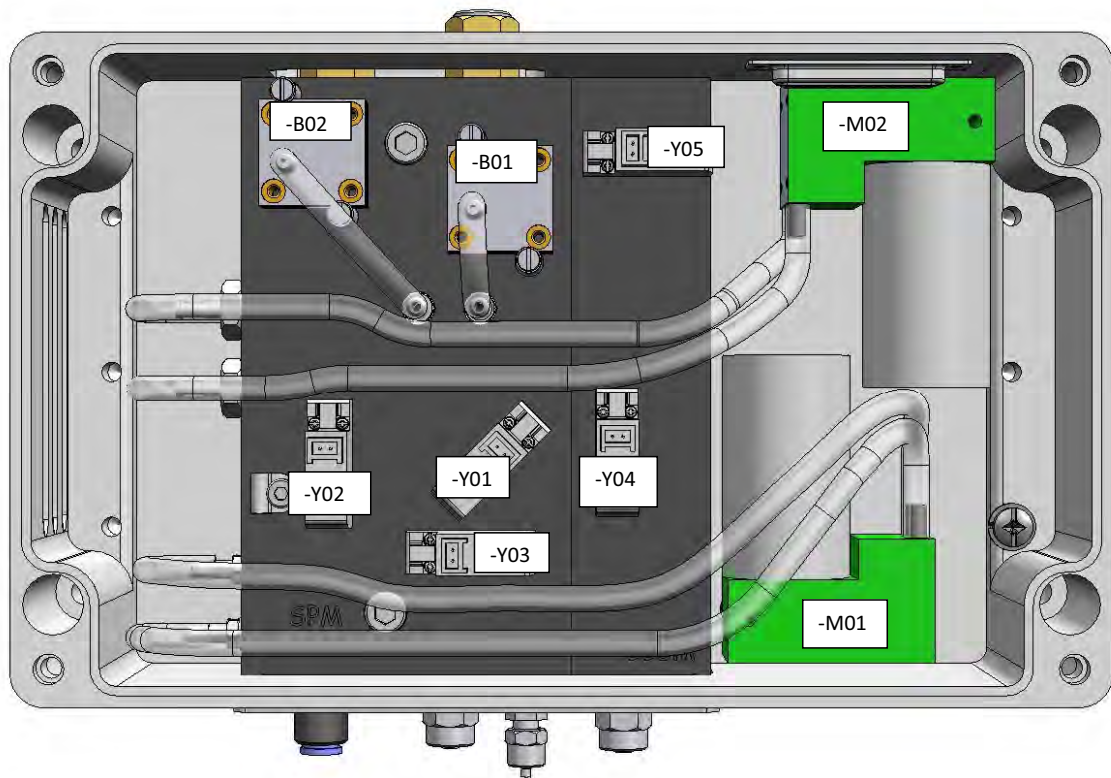

Figure 23 Replacing the Valves
Refer to Figure 23 under “*Replacing the Valves*” and replace the defective flow alarm switch, (-B01) or (-B02), as follows:
4. Locate the switch you want to replace. Refer to Figure 23.
10. Put the new switch in place with the vacuum port entering the centre hole. Make sure the o-ring is in place. See Figure 23 for correct orientation of the switch.
Refer to Figure 23 and replace the pump, (-M01) or (-M02), as follows:
Refer to Figure 23 and replace the defective valve, (-Y01), (-Y02), (-Y03), (-Y04), or (-Y05), as follows: